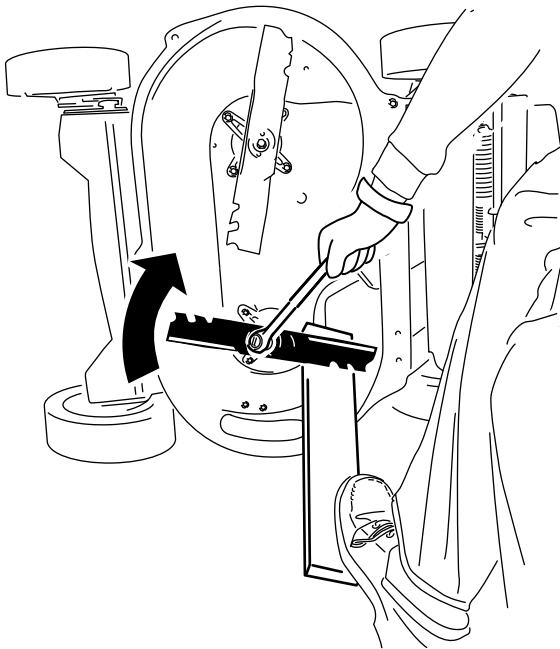

Figure 34
2. Steady each blade with a board and turn the blade bolt clockwise with a torque wrench as shown in Figure 34; torque each blade bolt to 82 N·m (60 ft·lb).